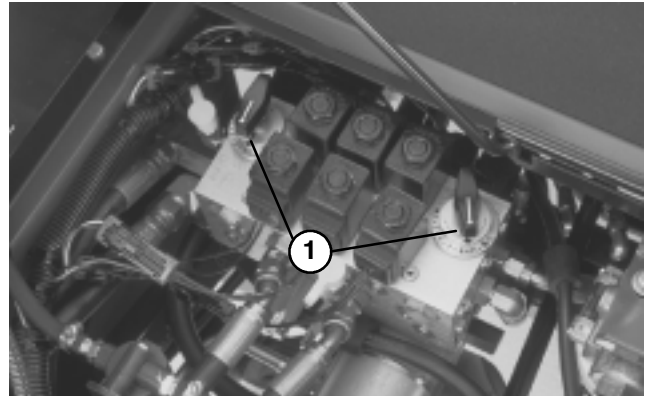

Figure 33
SETTING REEL SPEED (Fig. 33)
4. To set reel speed, rotate knobs (Fig. 33) until indicator arrows are in line with the number designating desired setting.